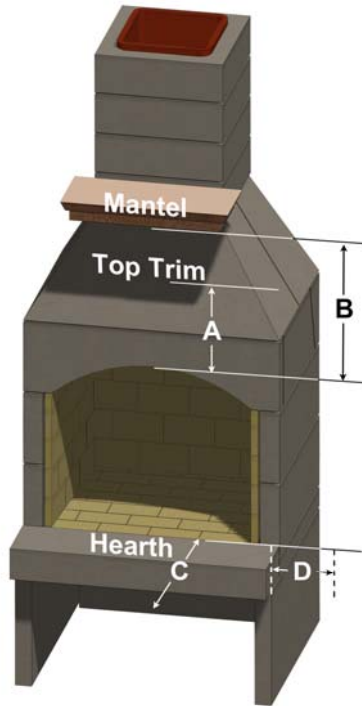

Figure 3. Clearances (Use with Table 2)
**Table 2: Clearances (See Figure 3)**
Select a location in the home plans or outdoor living area where all the minimum distances, as shown in Table 2 and Figure 3 can be met. Proceed as follows. Numbers in ( ) are item numbers from Table 1 and Figure 2. Ensure the base on which the fireplace is to be installed is a solid and level foundation and is composed of non-combustible material, such as concrete.
Q. Ensure the Table 2 and Figure 3 clearances and distances are maintained. Ensure that the hearth and flooring under and in front of the hearth are made of fully non-combustible materials, not just a non-combustible floor covering. When the hearth installation is complete, if the chimney complete and is not continuing through a roof or structure, you are ready to install the exterior finish. If the chimney will be continuing through a roof or structure proceed to Paragraphs 4.0 and 4.1 before beginning the finish application.